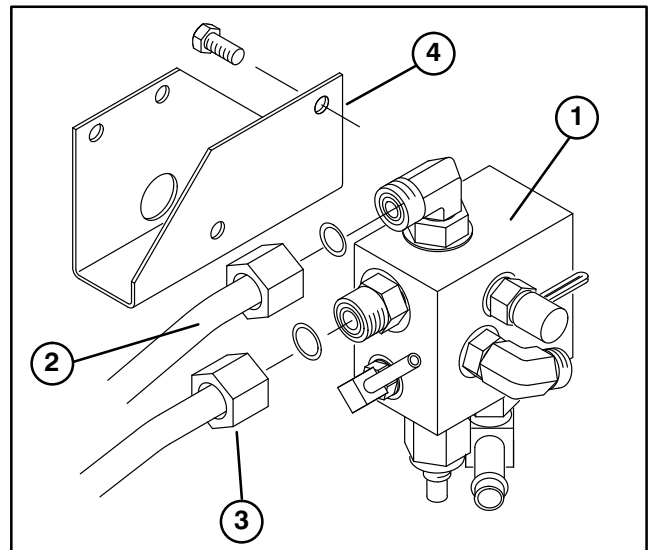

Figure 10
13. Mount manifold block assembly to manifold bracket with (2) 5/16–18 x 5/8" lg. flange head capscrews (Fig. 10). Torque screws to 145–190 in. lbs.
14. Loosely install other end of shorter hydraulic tube to elbow fitting on top of manifold block (Fig. 10).
15. Loosely install other end of longer hydraulic tube to straight fitting on front of manifold block (Fig. 10).